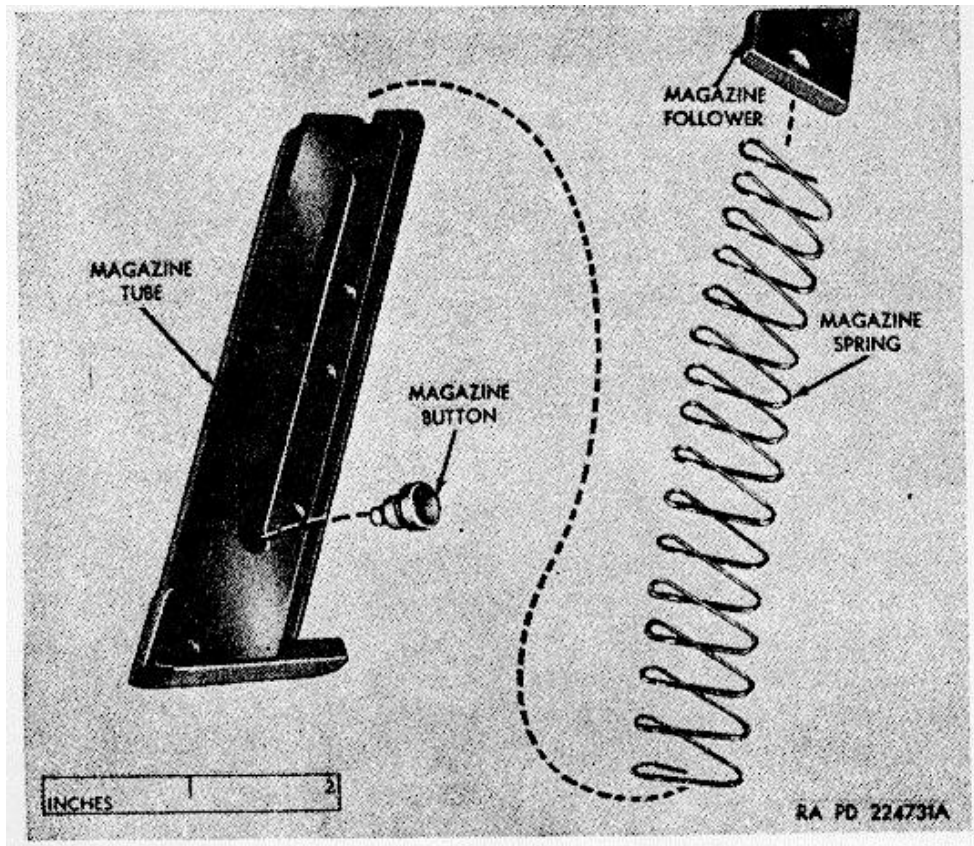

Figure 53. Magazine assembly-exploded view (high standard).
*a. General.* The magazine assembly (fig. 53) consists of the magazine tube, magazine follower, magazine button, and magazine spring.